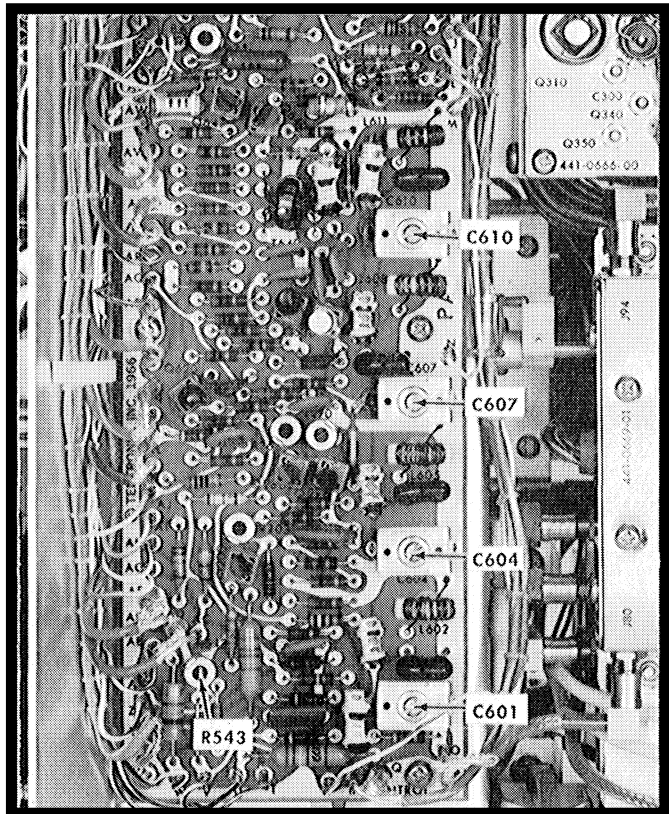

Fig. 6-28. Location of resolution filter adjustments and 100 kHz Resolution Cal R543.
h. Adjust 100 kHz Resol Cal R543 (Fig. 6-28) so the display begins to show evidence of over coupling (slight dip in the center). Bandpass response on the analyzer display should decrease to approximately 60 kHz at the -6 dB point when the RESOLUTION selector is turned counterclockwise one step from the fully clockwise position.
l. If the bandpass is less than 100 kHz in step k, adjust the 100 kHz Resolution Cal R543 (Fig. 6-28) to obtain a bandpass between 100 kHz and 120 kHz at the -6 dB point.